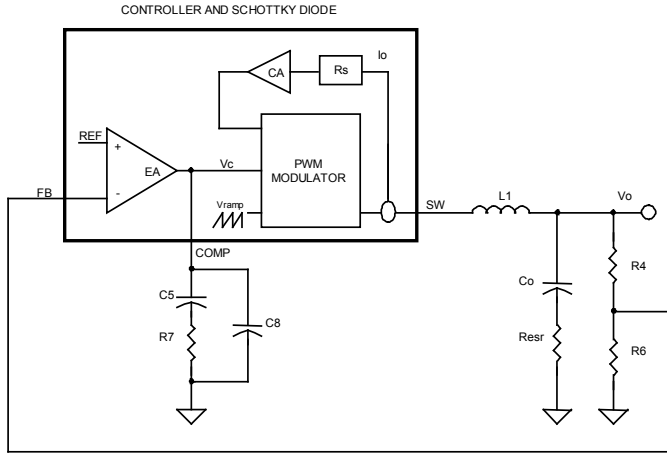

Figure 7. Block diagram of control loops
The block diagram in Figure 7 shows the control loops of a buck converter with the SC4525A. The inner loop (current loop) consists of a current sensing resistor ($R_s=4.1m\Omega$) and a current amplifier (CA) with gain ($G_{CA}=28$). The outer loop (voltage loop) consists of an error amplifier (EA), a PWM modulator, and a LC filter.
For a converter with switching frequency F_{SW} output inductance L_1 , output capacitance C_o and loading R , the control (V_c) to output (V_o) transfer function in Figure 7 is given by: